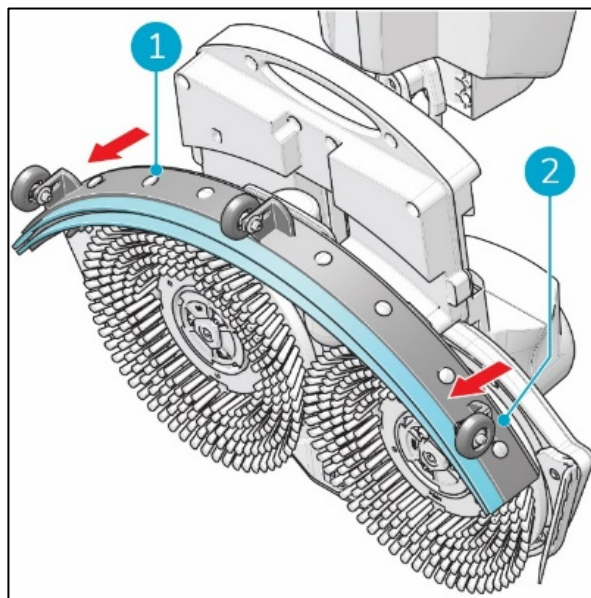

Figure 26
3. Pull on the left side of the squeegee to remove it (Figure 26, pos 1).
4. Pull on the right side of the squeegee to remove it (Figure 26, pos 2).